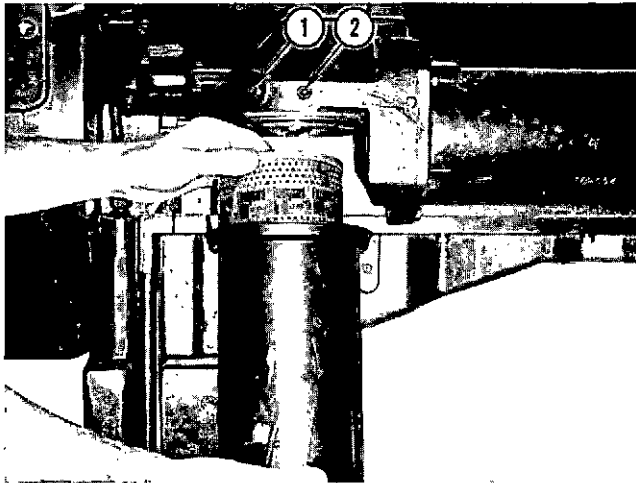

Fig. 2-11 (V61908) Removing lubricating oil filter element V-903
d. If element is clogged, the change period should be shortened. Oil pressure drop reading across filter is the best way to determine change periods. Pressure drop from inlet (1, Fig. 2-11) to outlet side (2) of filter should not exceed 10 psi [0.7 kg/sq cm] with 140 deg. F [60 deg. C] oil temperature and engine at high-idle speed.